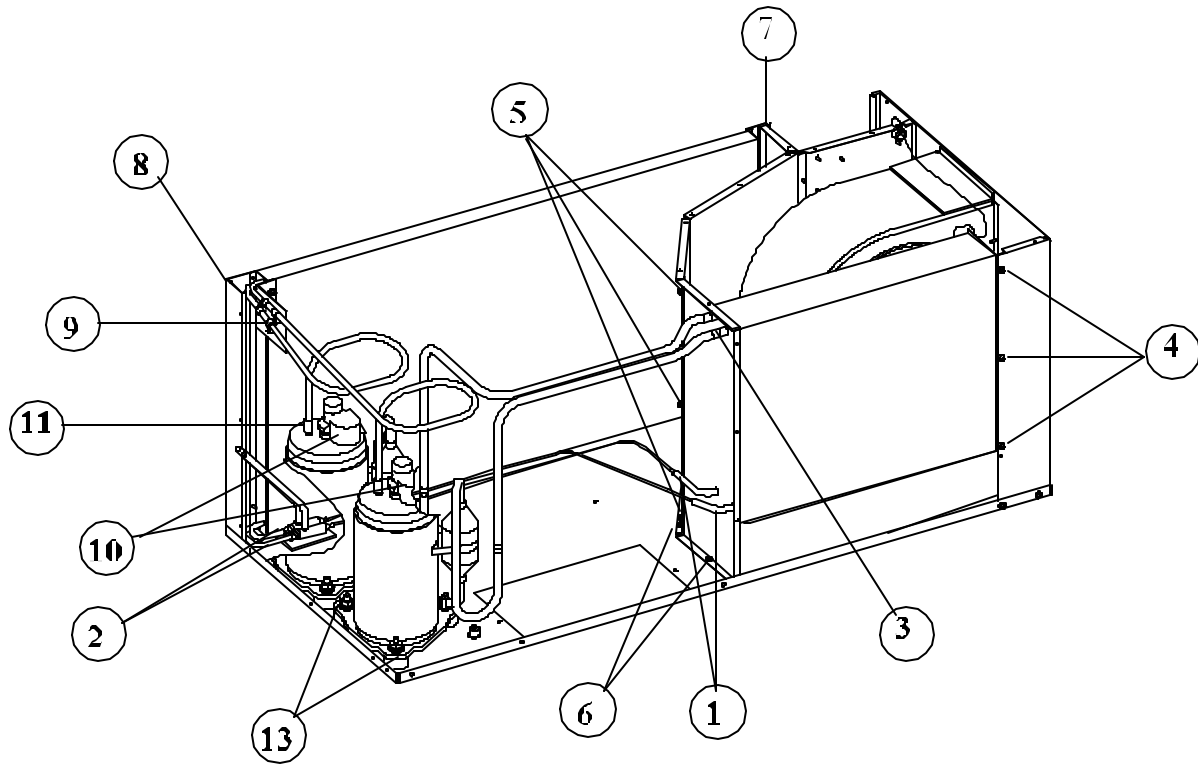

FIGURE 12
5. Unbraid cap tube assembly/assemblies from points (See #1 and #2, Figure 12). Make note of plumbing and cap tube locations (the replacement tubes will have to go back to the same locations).
3. Unbrazed joints #1 and #3, Figure 12.
5. Remove screws (#4, #5, #6, Figure 12).
6. Upon reassembly, the references made on Figure 12 shall be used for proper reassembly.
| 2. | Remove screws along wirebox side of coil (See #7, Figure 12). | 6. | Unbrazed discharge and liquid lines at points #2 and #9, Figure 12. |
| 3. | Remove corner panel (See Figure 12). | 7. | Remove condenser coil. |
| 1. | Remove compressor access panel. | 6. | Unbrazed plumbing at points #11 and #12, Figure 12 (protect any wiring and insulation from torch flame). |
| 2. | The top panel may be removed at this point if it allows technicians better access to perform service. | 7. | Remove mounting nuts and washers (See #13, Figure 12). |
| 4. | Remove terminal caps (See #10, Figure 12). | Note: | Upon reassembly, compressor wires shall be wire tied to suction lines to prevent excess chafing. |